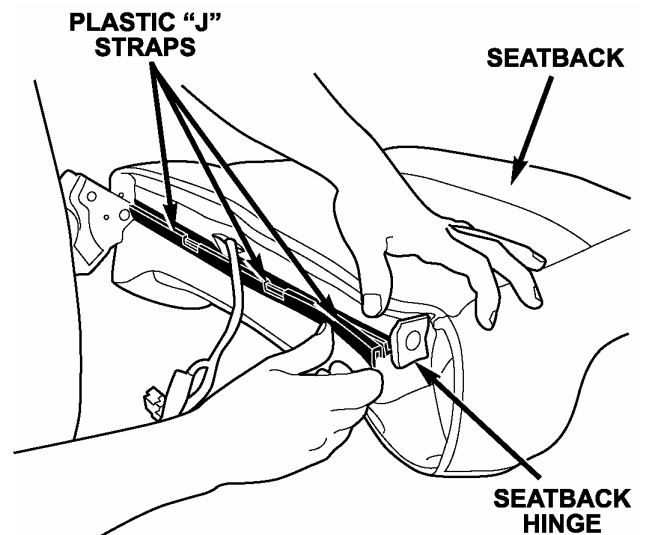

Figure 6
33. Disconnect the “J” strap located on the bottom of the seatback (Figure 6).